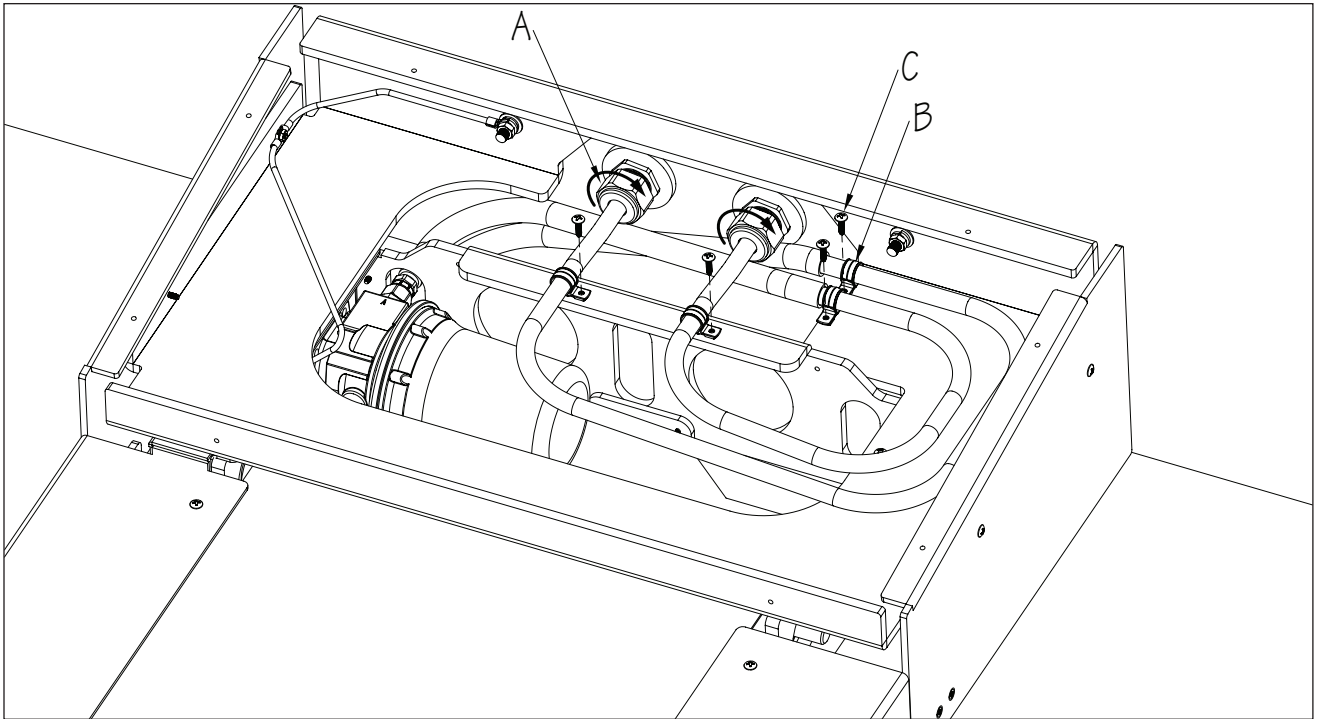

Fig. 16
4. Thread the Liquid Tight Fittings (A) into the Bushing Reducers and tighten the compression nuts. Secure Sub Hoses with Hose Clamps (B) as shown using the 3/4" (19mm) Phillips Truss Head Screws (C) (Fig. 16).